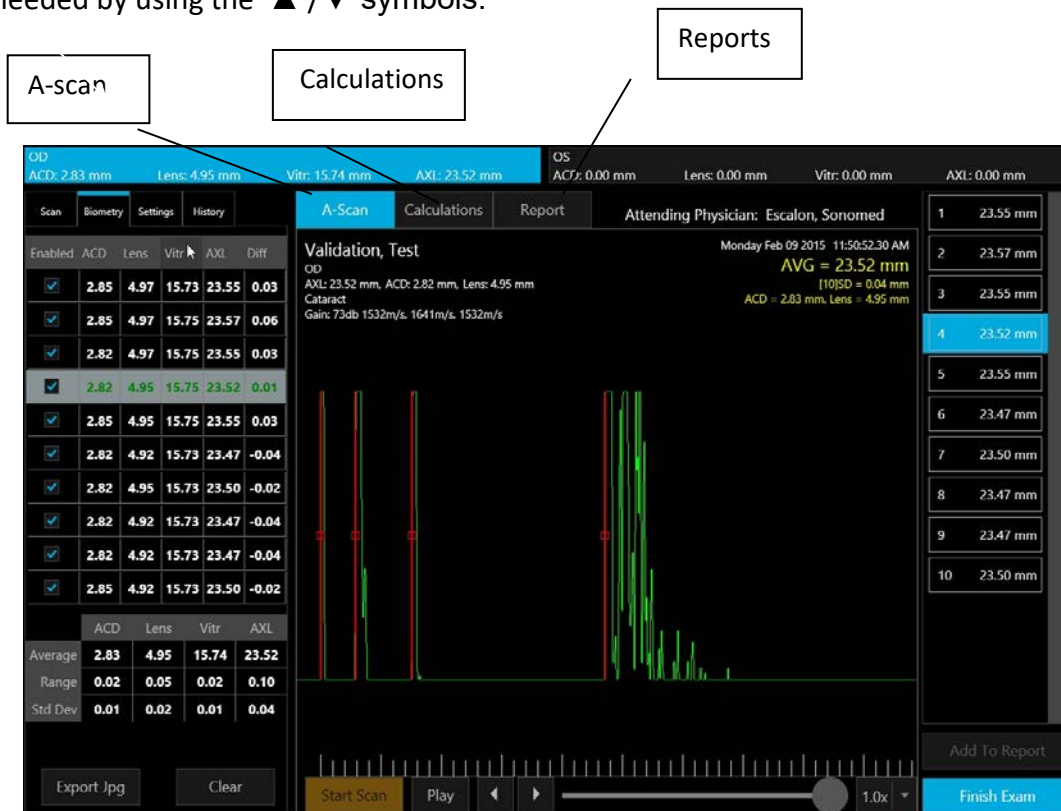

Fig. 4
- Select the desired **OD/OS** tab located on the top of the display. Then proceed as follows: (see Fig. 4)
Once the user has reviewed and is satisfied with the scan results, the CALCULATIONS tab, located at the top of the measurement display screen, should be selected. (See Fig. 4)